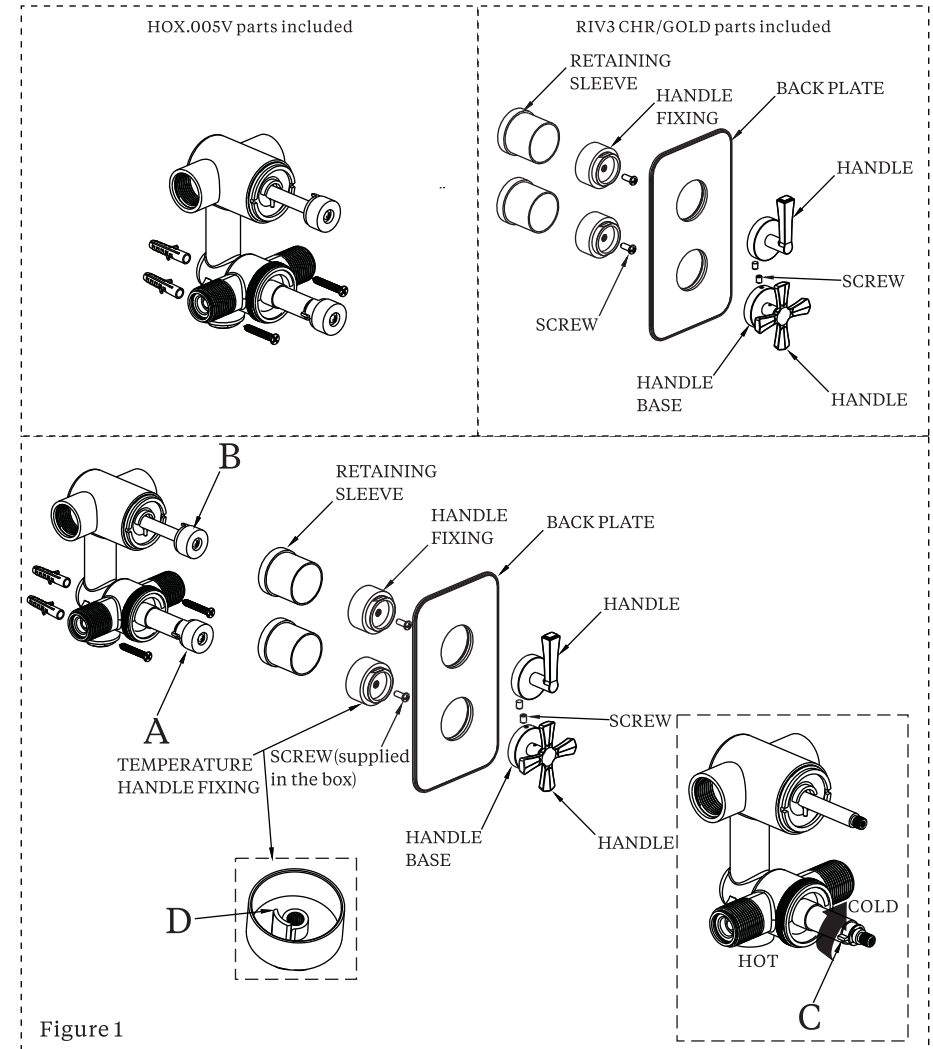

Figure 1
2. Parts should be assembled in sequence illustrated by Figure 1.